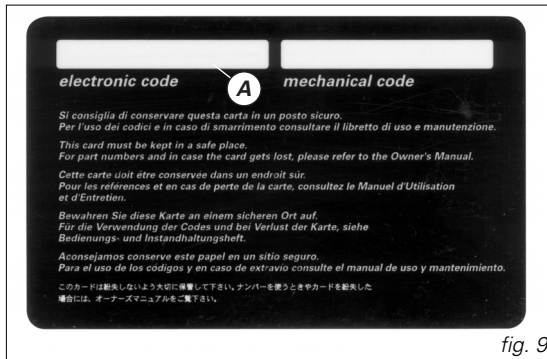

fig. 9
A) (fig. 9) the electronic code to be used to be used in case of engine block, i.e. bike did not start after **key-ON**.